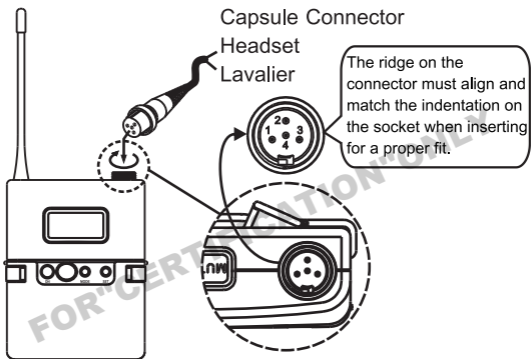

Fig. 3
1. Before turning on the power, connect the input signal source to the microphone input jacket ❶ first to avoid open-circuit induced noise, Fig. 3.